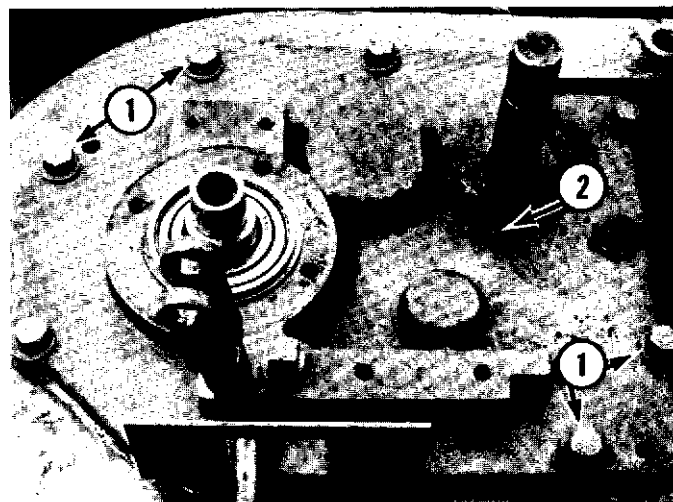

Fig. 11-5
- N. Remove the eleven hex head transmission cover mounting bolts and washers (1, Fig. 11-5).
- O. Carefully pry off the transmission case cover (2, Fig. 11-5).